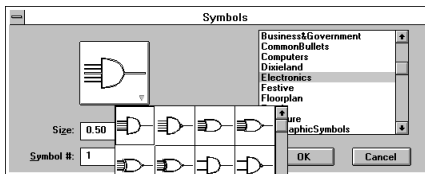

Fig. 4
5. The library of symbols will pop-out as shown in **Figure 4**. We want to select the resistor. We do so by clicking on the resistor symbol. The resistor symbol now appears where the five input AND gate was previously.